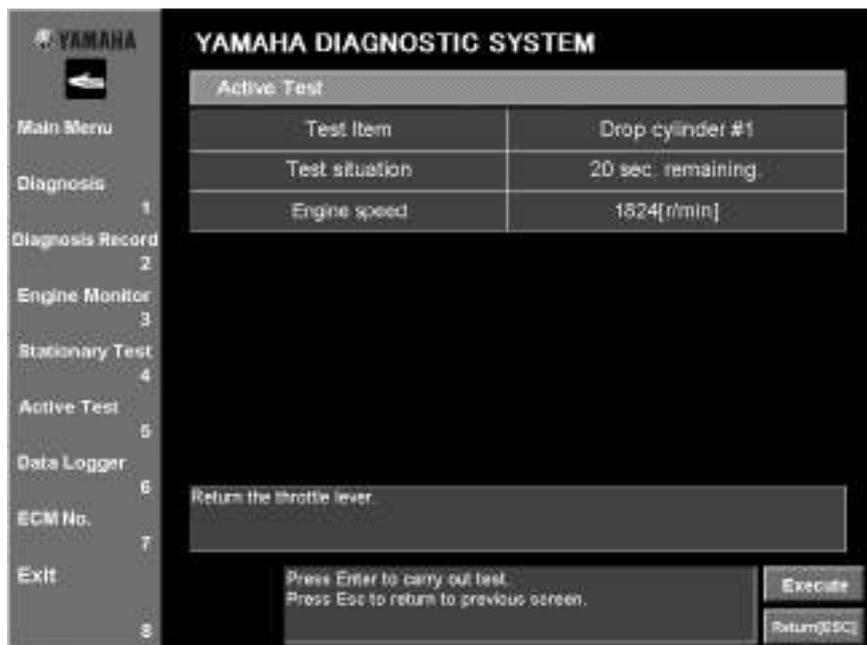

Fig. 56
4. Click the **Execute** button or press the Enter key on your keyboard. (Fig. 56)
5. While checking the information that appears beside **Test situation** and **Engine Speed**, follow the test instructions in the messages that are displayed. (Fig. 56)